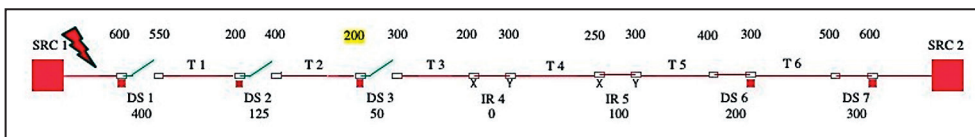

Figure 18. The team T3 load is supplied when switch IR4 closes.
- STEP 5.** Disregarding all other restoration logic for this example, switch IR4 is allowed to close followed by switch IR4 reducing the alternate source real capacity by the load being restored. Team T3 is assigned the updated real capacity of $(150 - 50 =) 100$ A. See Figure 18.